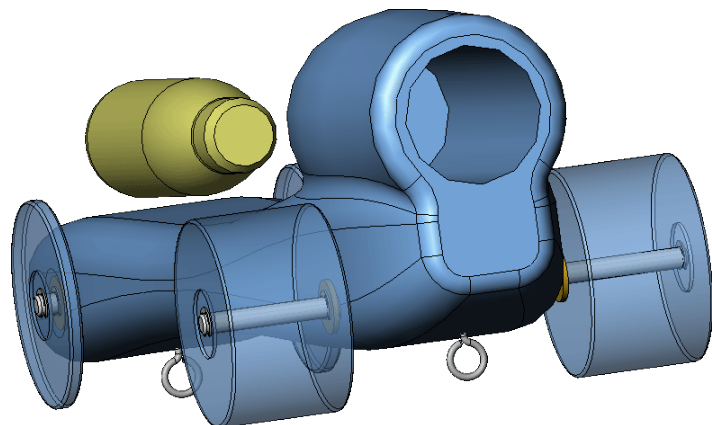

Fig. 23
- Step 2. Hold down middle mouse button (wheel) and drag to **rotate view** to view the bottom and side of the cartridge hole, Fig. 23.
- Step 6. Click approximately where the cartridge is positioned in Fig. 23.